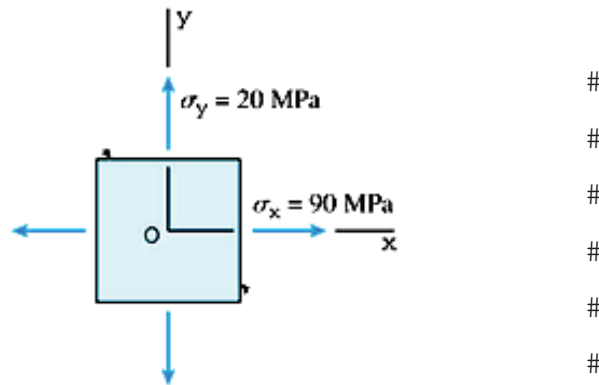

Figure 3: Stress element at point of on surface of pressurized vessel.
- (b). At a point on the surface of a pressurized vessel, the material is subjected to biaxial stresses as shown on the stress element in Figure 3. Plot stress transformation (σ_x , τ_{xy}) versus angle (θ)